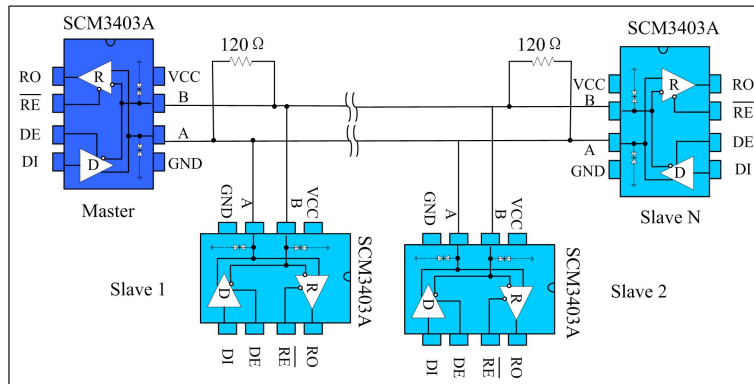

Figure 10. Bus lines type RS485 half-duplex telecommunication network
1. Bus networking: The SCM3403ASA RS485 transceiver is designed for bidirectional data communication on multi-point bus transmission lines. Figure 10 shows a typical network application circuit. These devices can also be used as linear repeaters with cable lengths longer than 4000 feet. To reduce reflections, terminal matching should be done at both ends of the transmission line with their characteristic impedance, and the length of the branch wires other than the main line should be as short as possible.